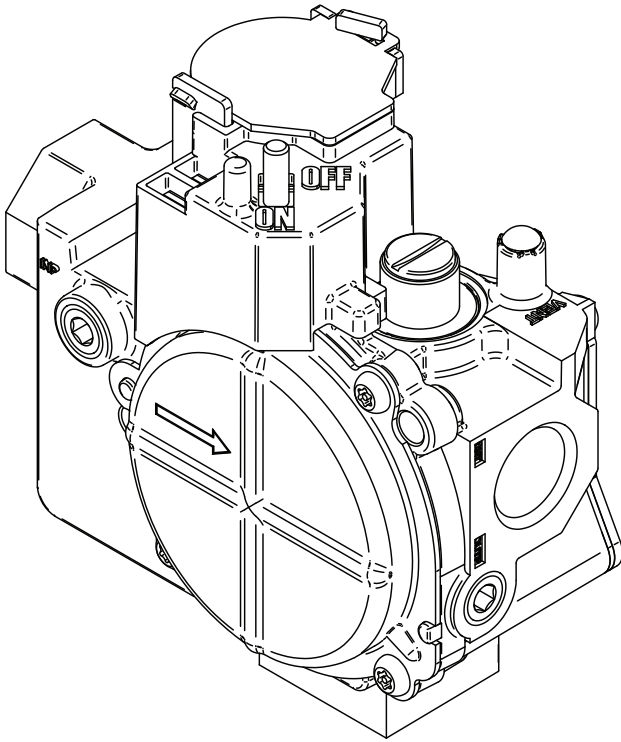

Fig. 42 - Gas Control Valve
- b. Remove manifold pressure tap plug from gas valve. (See Fig. 42.)